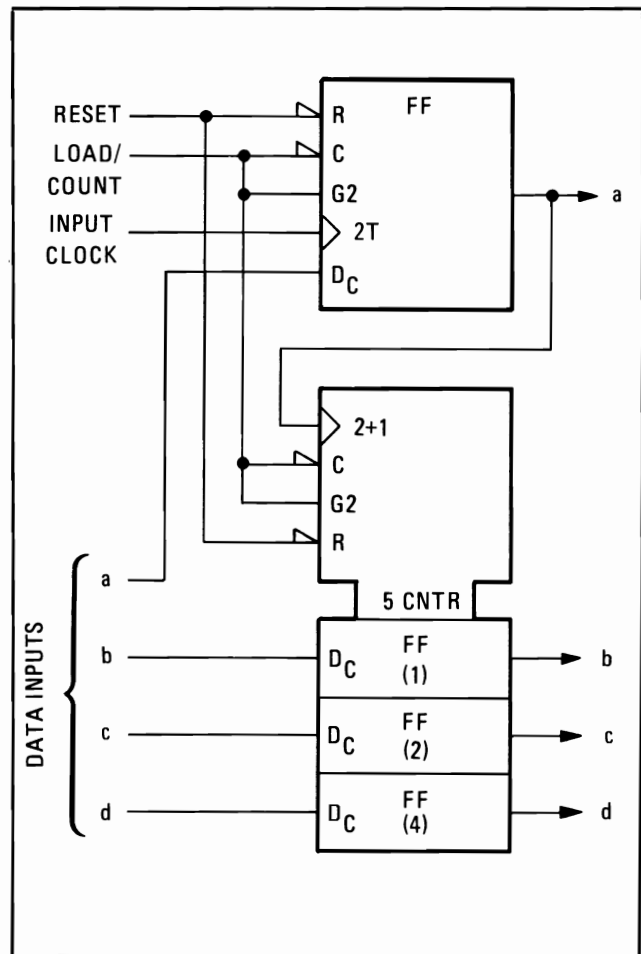

Figure 8-24. Presetable Counter
Presetable counters consist of four D flip-flops which are internally connected to provide a divide-by-two and a divide-by-five counter for a BCD counter or a divide-by-two and a divide-by-eight for a hexadecimal counter. The outputs of these devices can be preset to any state by placing a low on the load/count (C) input and applying the desired data to the D inputs. As long as the load/count input is low, the outputs will follow the D inputs. When the load/count input is set high, the outputs are latched to the preset values, and the output will advance one count with each low-to-high transition of the clock. The reset (R) function is asynchronous. See Figure 8-24.